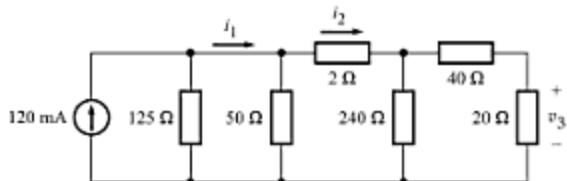

Fig. A-86
- A-48. In the circuit of Fig. A-86, find i_1 , i_2 and v_3 using resistance combination method and current division.